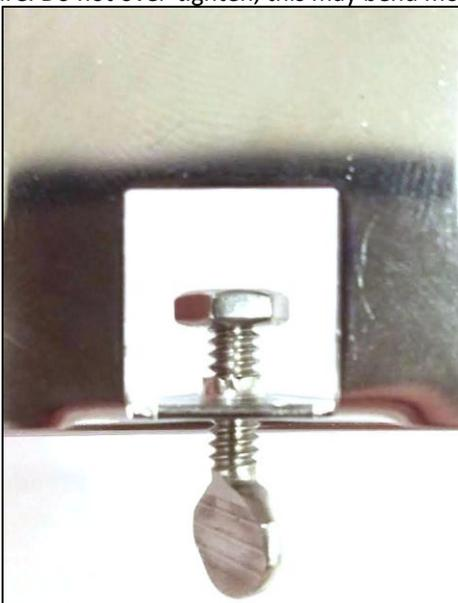
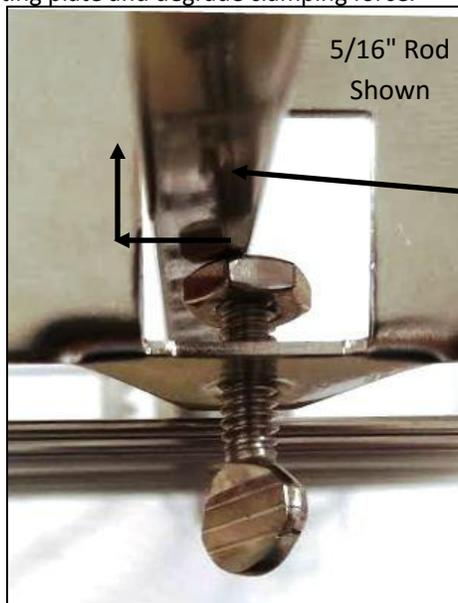

Fig. 3
Fig. 4
Step 2 (b): **For 5/16" square & 3/8" square spit rod mounting:** Assemble the included locking nuts onto the end of the previously inserted thumbscrews. This nut will lock into place. Once resistance is met tighten approximately 1/8 turn further using wrench or socket. Once in the correct position the thumbscrew threaded end will become flush with the outside of the nut allowing for increased surface area of clamping. See Fig. 3. Insert spit rod through both sides of the basket ensuring that the spit rod is justified into one of the upper corners of the basket mounting plate as seen in Fig. 4. Tighten until secure. Do not over-tighten, this may bend mounting plate and degrade clamping force.